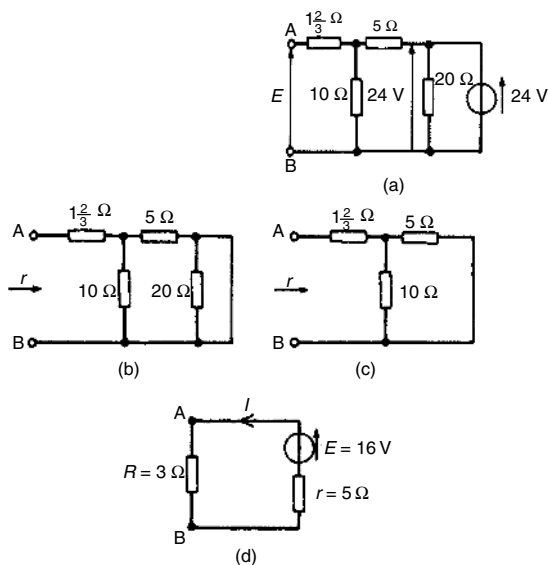

Figure 13.45
- (i) The $3\ \Omega$ resistance is removed from the circuit as shown in Fig. 13.45(a).
- (iii) Removing the source of e.m.f. and replacing it by its internal resistance means that the $20\ \Omega$ resistance is short-circuited as shown in Fig. 13.45(b) since its internal resistance is zero. The $20\ \Omega$ resistance may thus be removed as shown in Fig. 13.45(c) (see Section 13.4 (vi)).
From Fig. 13.45(c), resistance,
(iv) The equivalent Thévenin's circuit is shown in Fig. 13.45(d), from which, current,